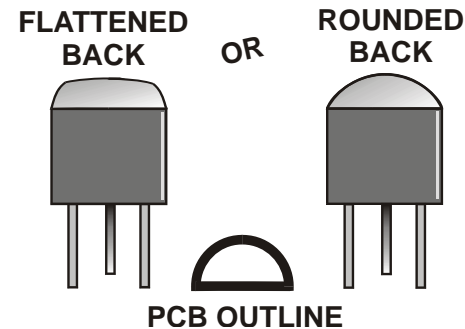

Figure 10. Transistor Orientation Guide.
- _ Align the flat side of the device as shown by the printed outline (see Figure 10).